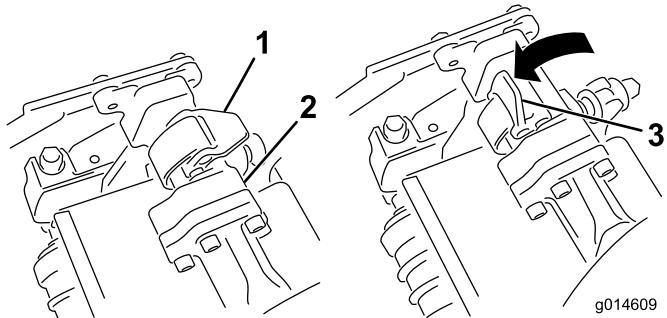

Figure 12
5. With the latches on the suspension-arm bar pointing up (i.e., open) (Figure 12), push the suspension arm
6. Close the latches down and around the cutting-unit bar and lock them in place (Figure 12).